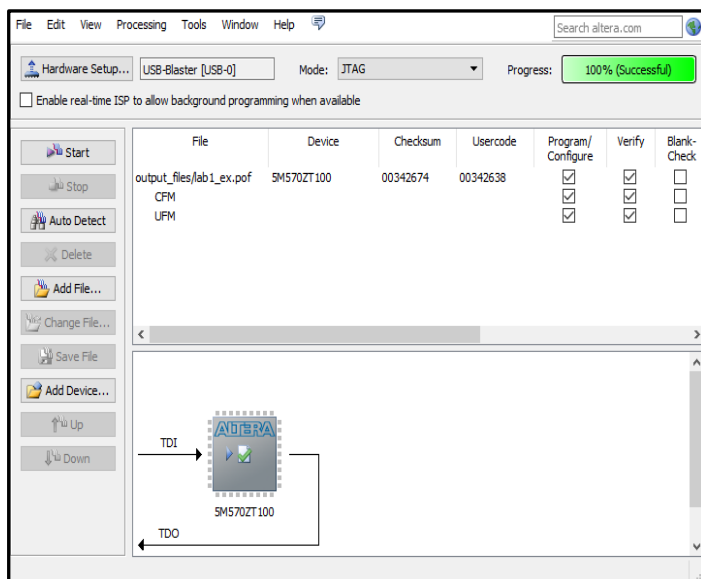

Figure 17: Programmer
6. Select “Hardware Setup” and then select (double-click on) USB-Blaster. (See Figure 17.) If it does not show up make sure your USB-Baster is plugged into your computer and your driver is installed. Then press “Close”. If you are on a mac using a virtual machine, make sure your USB-baster is connected to your virtual machine. Look in your virtual machine settings for something relating to USB Connection Preferences.